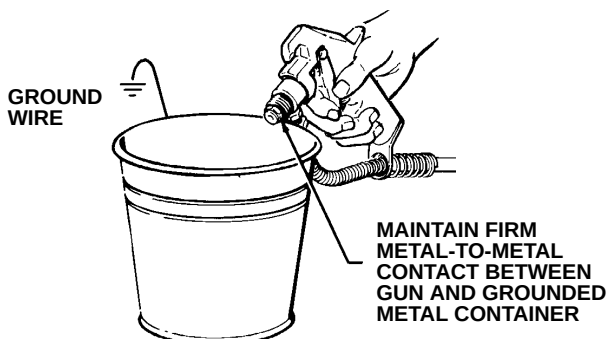

Fig 3
- Hold a metal part of the gun firmly against and aimed into a grounded metal waste container. See Fig 3. Squeeze the trigger and hold it open, turn the sprayer ON, and slowly increase the pressure setting until the sprayer starts. Keep the gun triggered until all air is forced out of the system and the paint flows freely from the gun. Release the trigger and engage the gun safety latch.